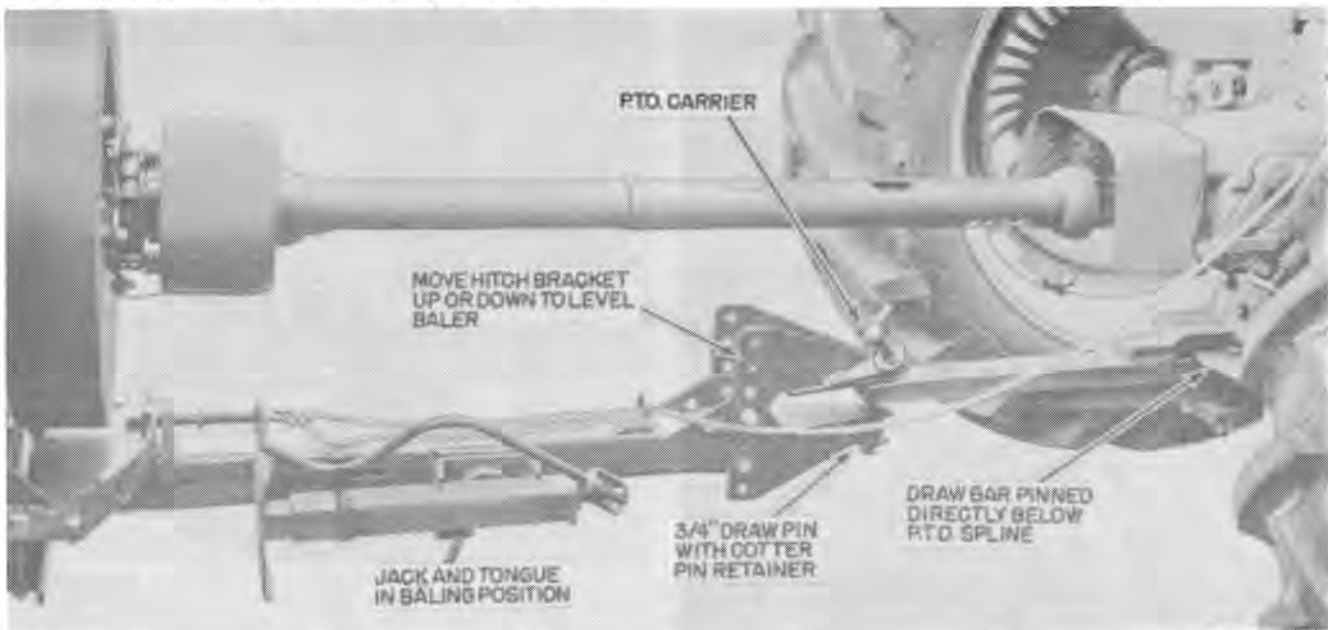

FIGURE 12
4. Adjust the baler hitch bracket up or down as required so that the bale chamber is level. See Figure 12.
5. Swing the jack up. Block the front of the right hand ground wheel, pull the tongue latch pin rope, and carefully drive forward until the tongue swings into baling position, as shown in Figure 12.